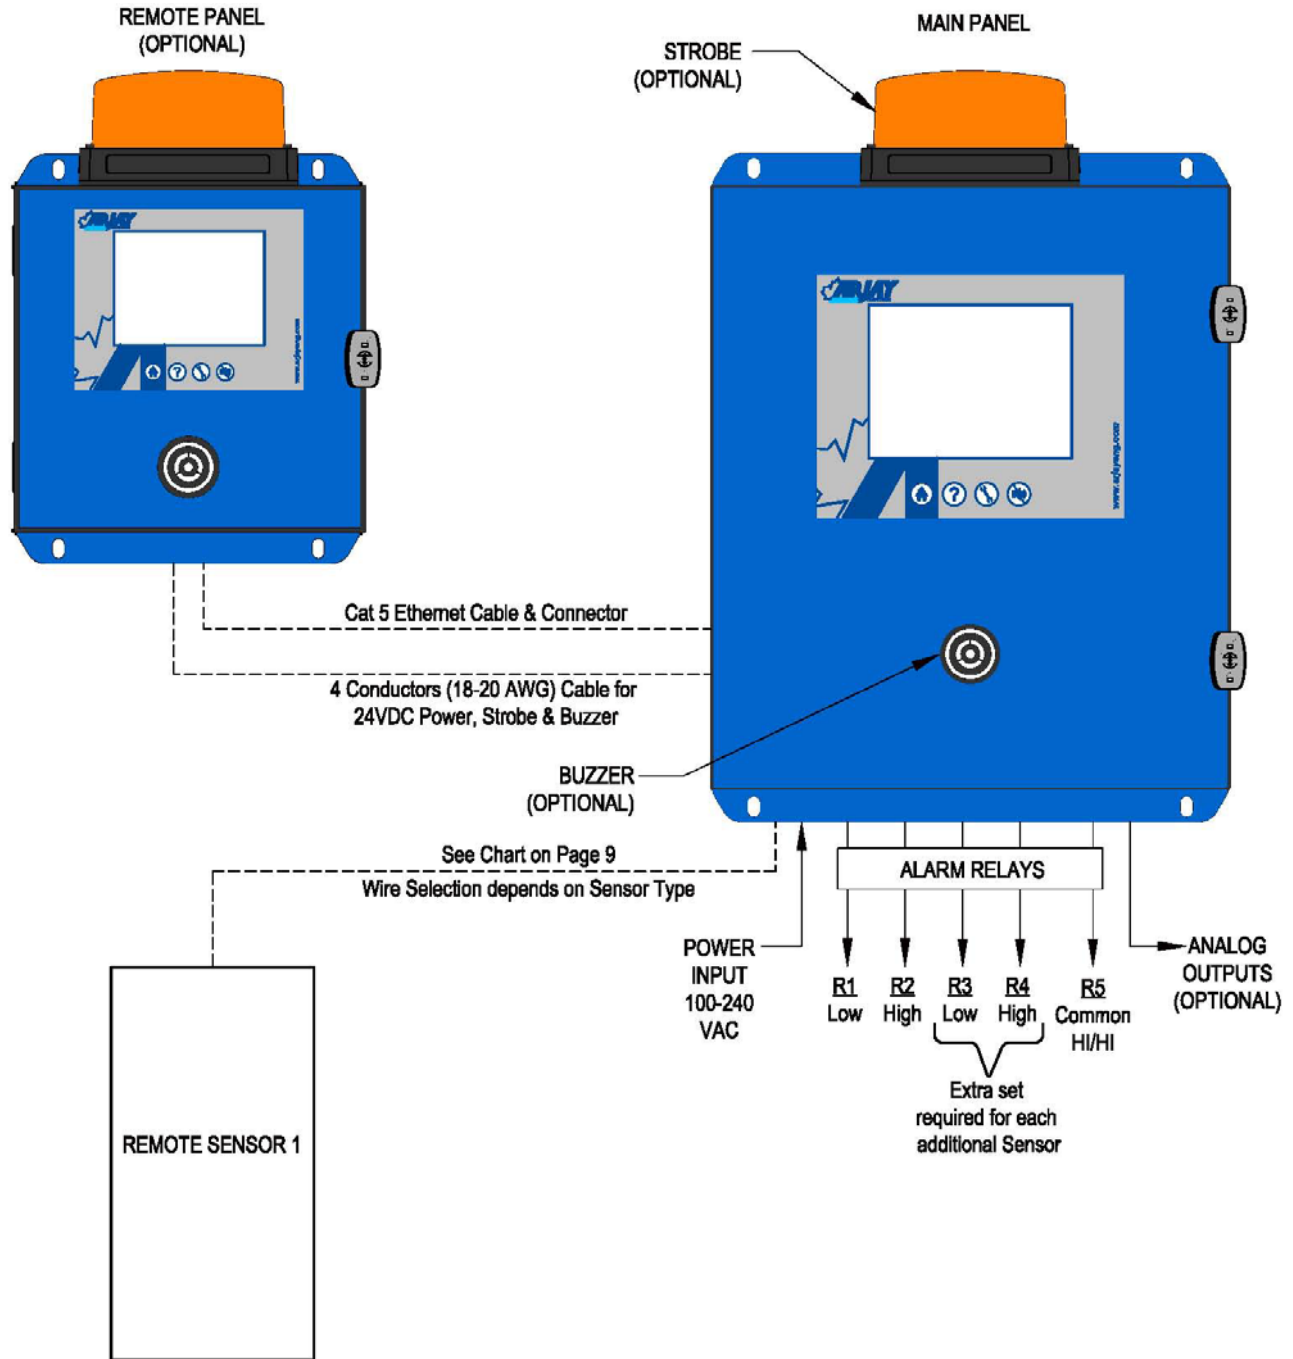

Figure 2 – Electrical Installation Overview
- Figure 2 – Electrical Installation Overview 8